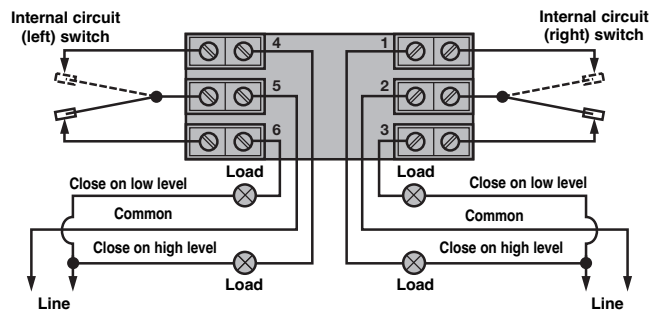

Figure 6
1. Rising level closes contacts 4 & 5 and 1 & 2, see Figure 6.